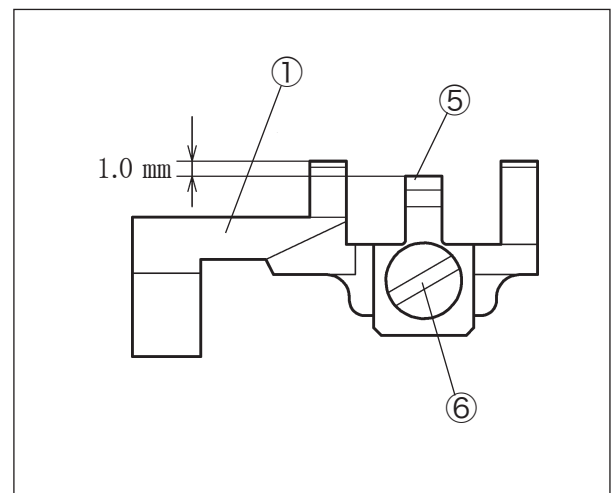

Fig. 6-33
The standard height is 1.0 mm below the differential feed dog ①. (Fig. 6-33)